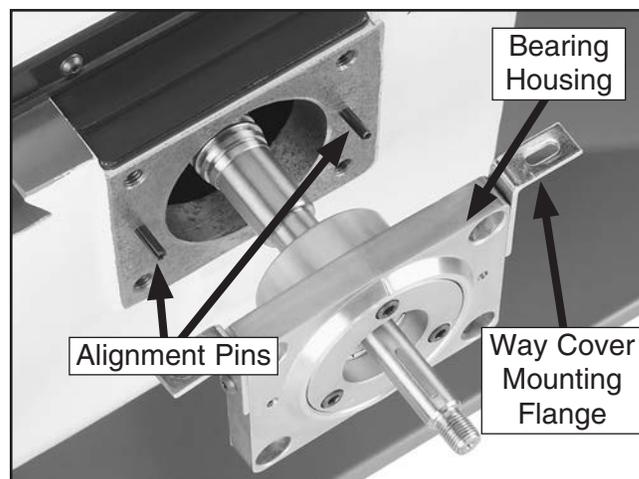

Figure 67. Cross feed bearing housing and alignment pins.
6. Carefully loosen the bearing housing from the alignment pins, then remove it from the leadscrew (see **Figure 67**).
Note: When re-installing the bearing housing, make sure the way cover mounting flanges (see **Figure 67**) are on the top for proper alignment.